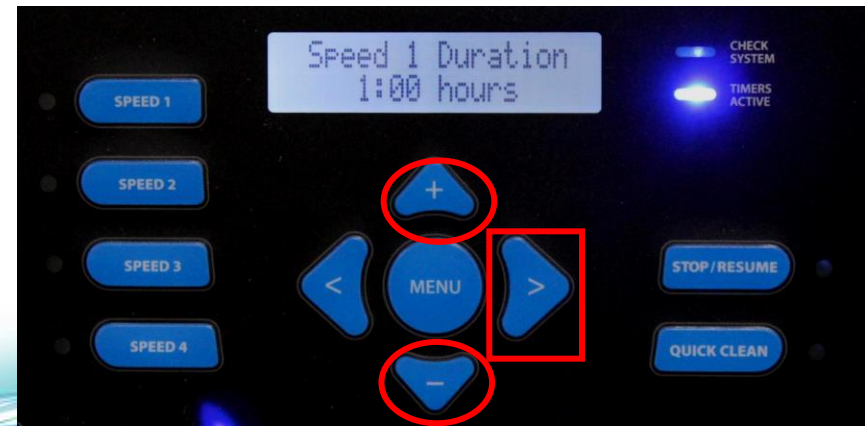

Figure 51
3. While in this screen you can change the speed duration from 30 minutes to 12 hrs in 30 minute increments by pressing the  &  button (fig 51). Press the  button to continue.